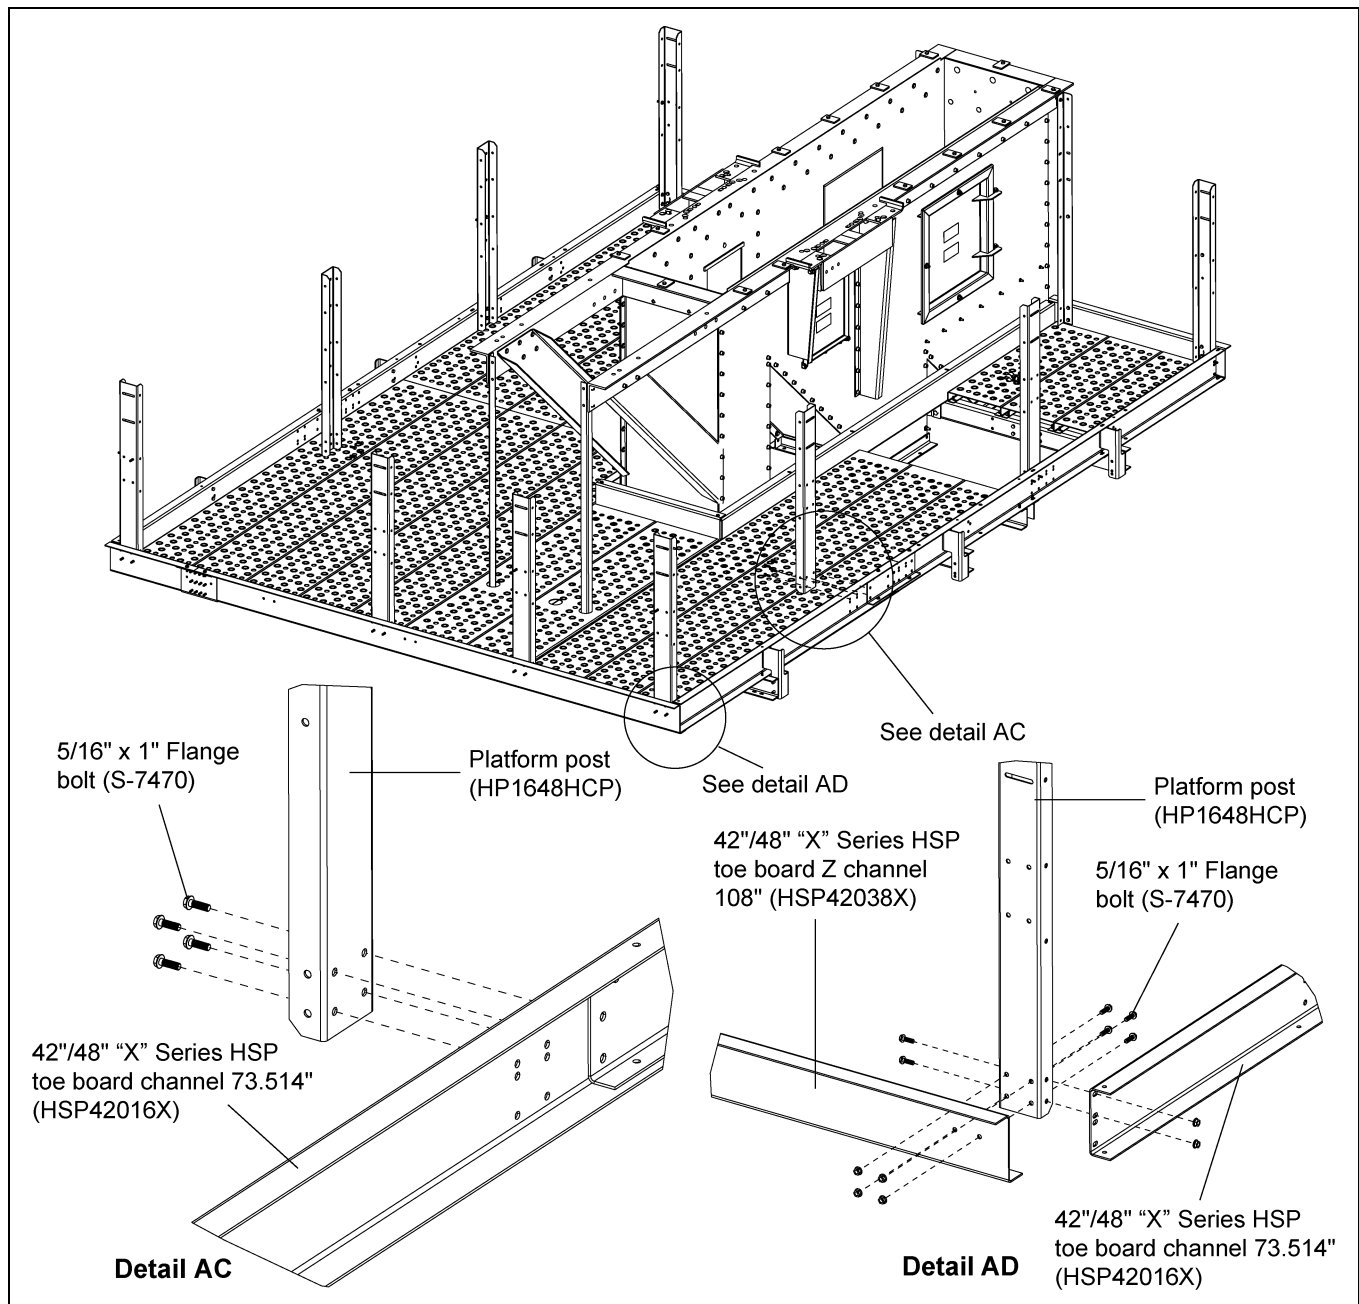

Figure 80
1. Install platform post to the "Z" toe boards with the flat side to the toe board spacing them as shown in Figure 80.
2. Fasten middle post to toe boards using four (4) 5/16" x 1" flange bolts (S-7470) and 5/16" flange nuts (S-3611).
3. Fasten corner posts to toe boards using six (6) 5/16" x 1" flange bolts (S-7470) and 5/16" flange nuts (S-3611).